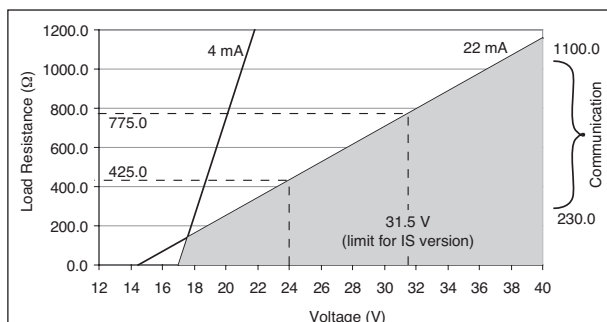

Figure 2-1. Supply voltage/ load diagram
Note: The transmitter contains a switched power supply. The transmitter requires a minimum power voltage in order to work correctly, which is dependant on the load. Please refer to figures 2-1 and 2-2 for the correct power supply.
C. Load : Maximum load is 425 Ohm @ 24 VDC and varies with power supply voltage according figure 2-1.